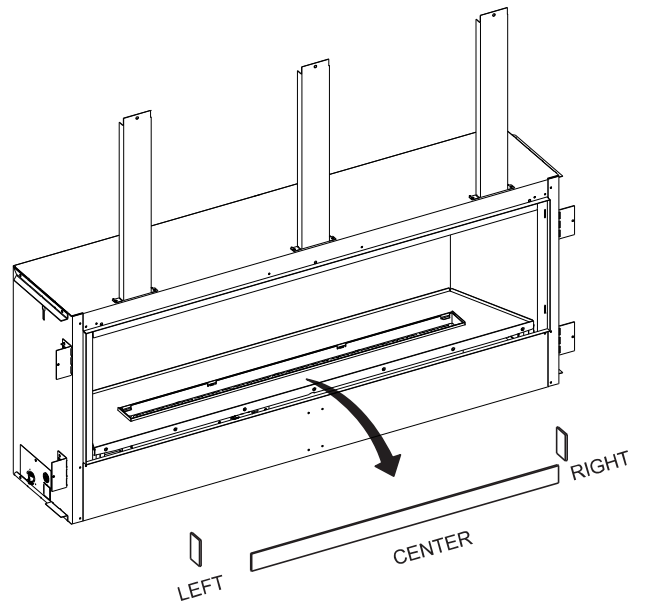

Figure 2
2. Remove glass panels around burner. See Figure 2.
- Reinstall glass panels removed in Step 2. See Figure 2.